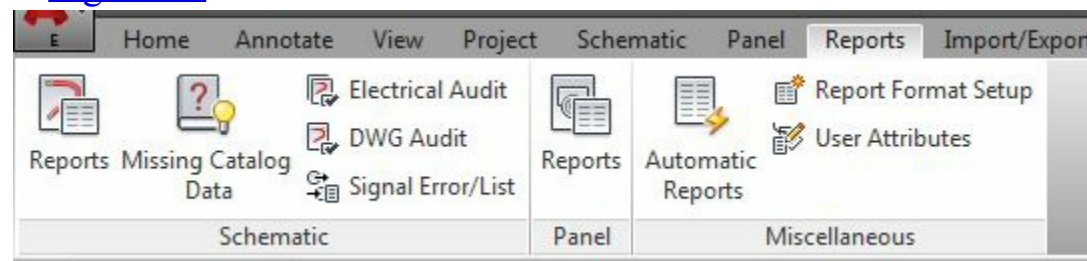

Figure-33. Reports tab
- Click on the **Reports** tab in the **Ribbon**. The tools related to reports will be displayed; refer to Figure-33.